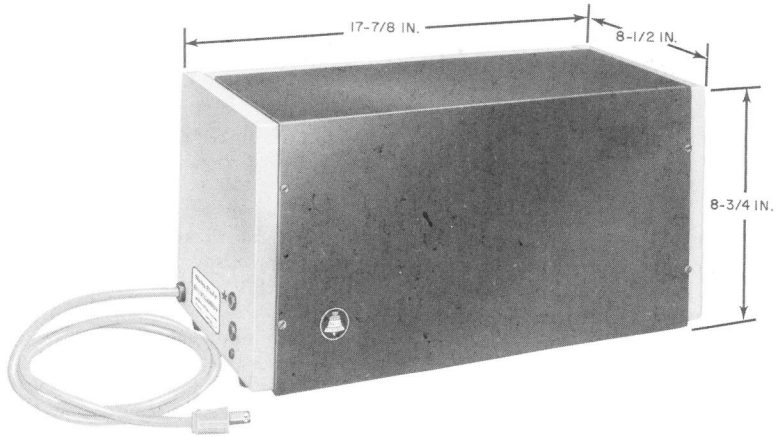
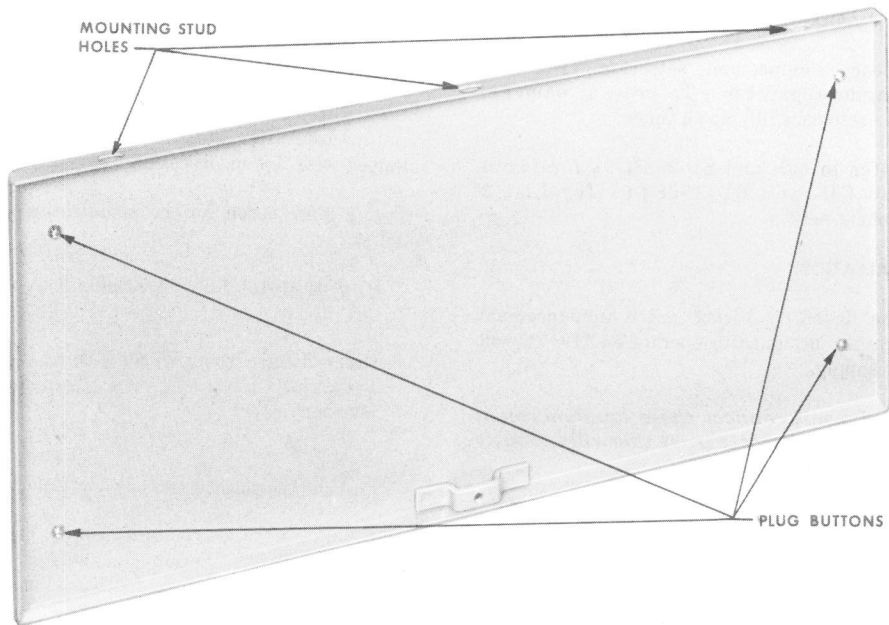
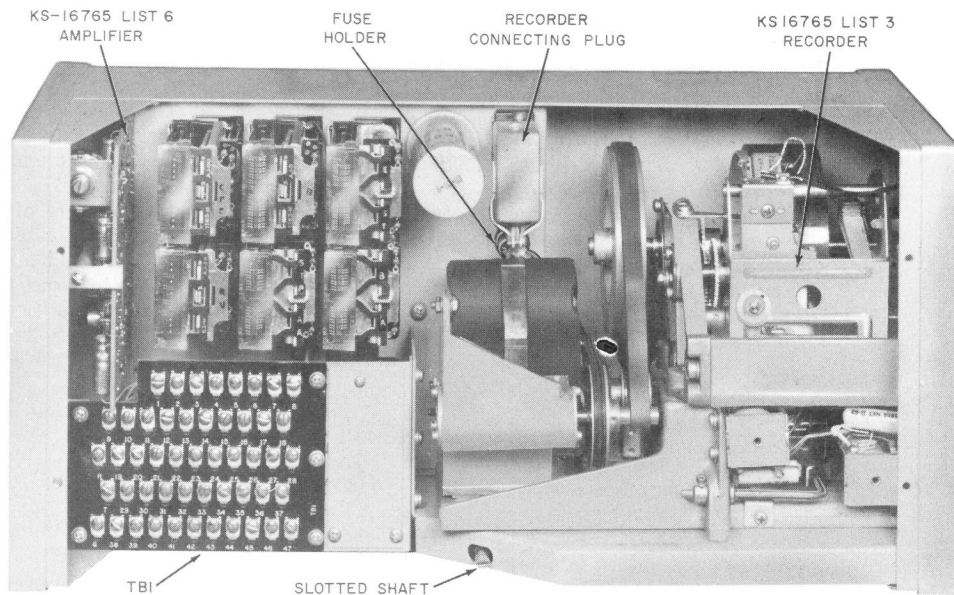
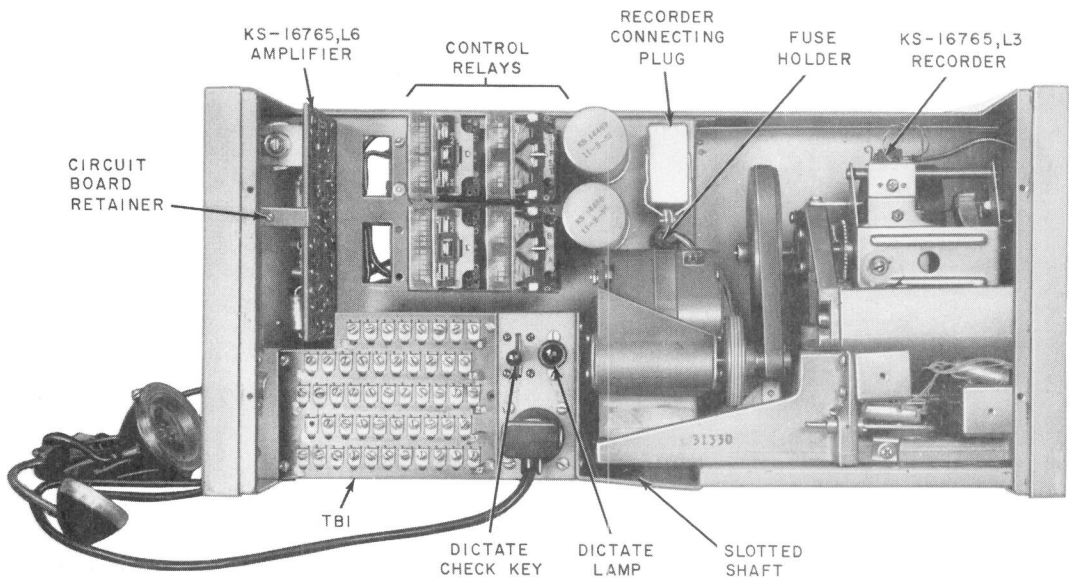

Fig. 1—KS-16765, Lists 1 and 2 Announcement Sets, Dimensions
Fig. 2—KS-16765, Lists 1 and 2, Rear Cover
Fig. 3—KS-16765, List 1 Announcement Set, Front Cover Removed
Fig. 5—KS-16765, List 2 Announcement Set, Front Cover Removed
**1.03** These announcement sets (Fig. 1) contain fragile apparatus. To prevent damage, handle the sets carefully at all times.
**2.11** Refer to the appropriate sections to install the telephone set, cable, drop wire, connecting block, and inside wiring used with a List 1 set (Fig. 3 and 4) and to install the inside wiring used with a List 2 set (Fig. 5 and 6).
- (1) Remove front cover
- Loosen four captive screws in front of cover (Fig. 1). Slide cover forward.
- (2) Remove rear cover
- (3) Remove the four plug buttons from announcement set rear cover (Fig. 2).
- (4) Mount rear cover to wall surface using four No. 14 screws or equivalent.
- (5) Hold set with top tipped slightly back. Insert the three mounting studs (Fig. 3 and 4) located on the underside of the top of the set into the three mounting stud holes in the top edge of the rear cover.
- (6) Tighten slotted shaft by turning clockwise with a screwdriver. This locks set to rear cover.